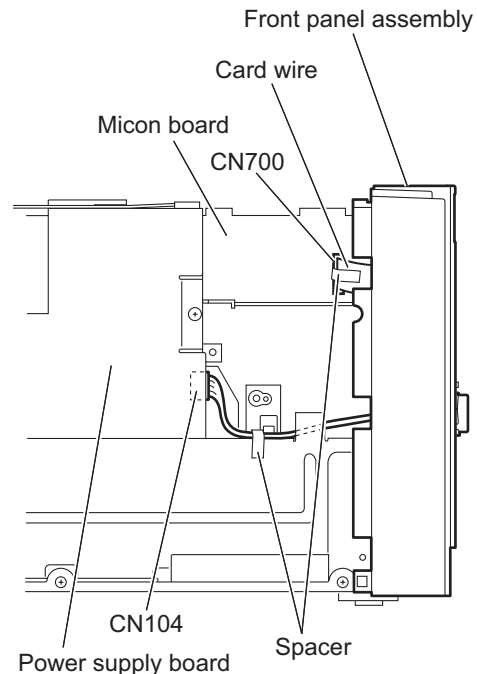

Fig.4
3.1.2 Removing the front panel assembly (See Figs.4 to 6)
- (1) From the left side of the main body, disconnect the wire from the connector CN104 on the power supply board. (See Fig.4.)
After connecting the wire to the connector CN104, fix the wire with the spacer as before. (See Fig.4.)
- (2) Disconnect the card wire from the connector CN700 on the micon board. (See Figs.4 and 5.)
After connecting the card wire to the connector CN700, fix the card wire with the spacer as before. (See Fig.4.)